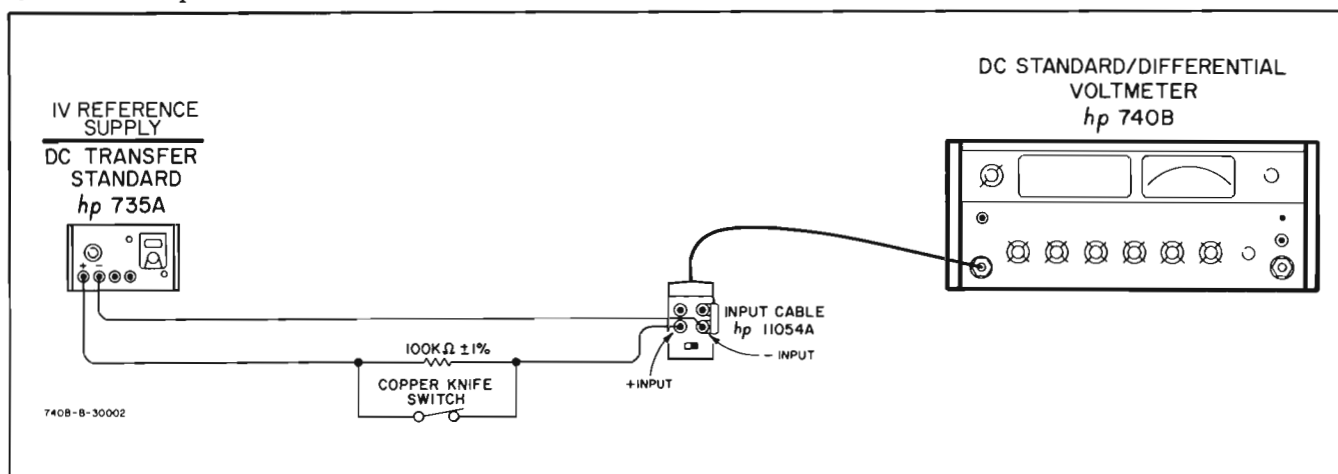

Figure 5-5. Input Resistance Test
- a. Connect test setup shown in Figure 5-5.